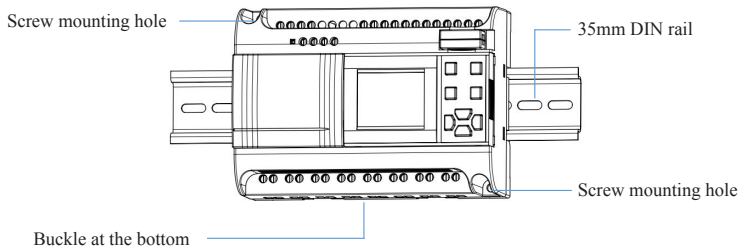

Fig.2.1 Use stand and DIN rail for installation of FAB2
1. Use standard 35mm DIN rail mounting FAB2, as shown in Fig 2.1,